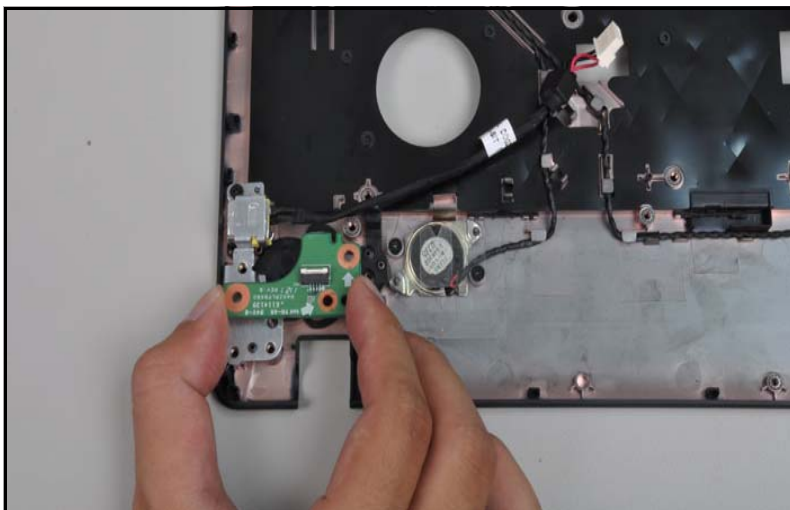

Figure 3-36. Power board removal
2. Remove the power board by lifting it from the lower case (Figure 3-36).
- 1. Place the power board onto the lower case and press down to secure it. Refer to Figure 3-36.